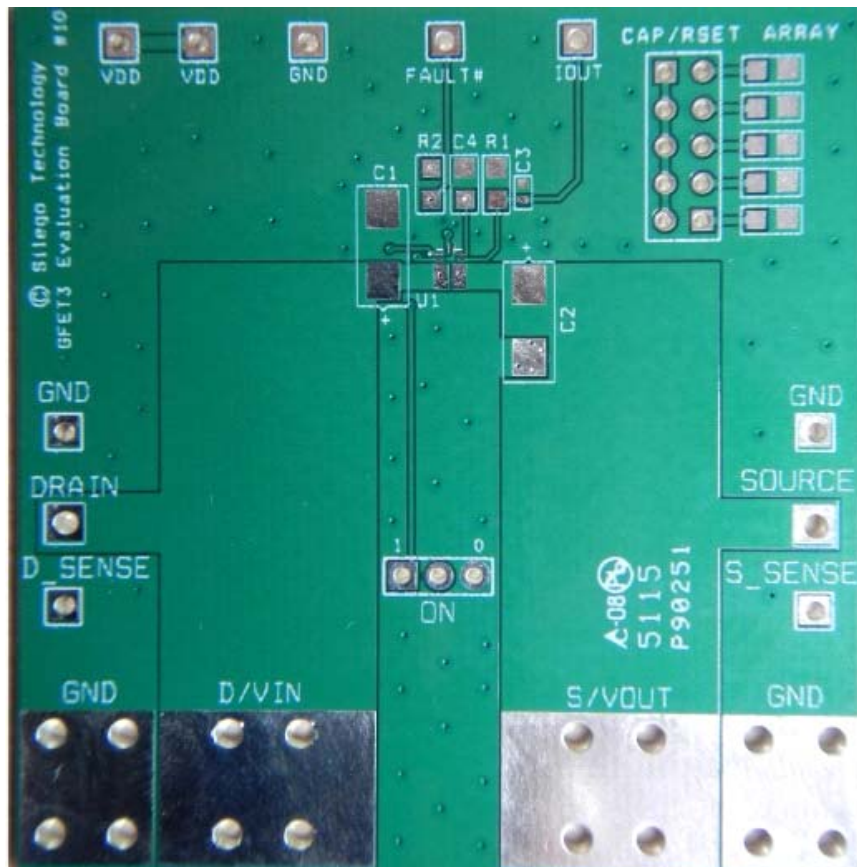

Figure 13. SLG5NT1757V Evaluation Board
2. Since the VIN and VOUT pins dissipate most of the heat generated during high-load current operation, it is highly recommended to make power traces as short, direct, and wide as possible. A good practice is to make power traces with an absolute minimum widths of 15 mils (0.381 mm) per Ampere. A representative layout, shown in Figure 13, illustrates proper techniques for heat to transfer as efficiently as possible out of the device;
A GFET3 Evaluation Board for SLG5NT1757V is designed according to the statements above and is illustrated on Figure 13. Please note that evaluation board has D_Sense and S_Sense pads. They cannot carry high currents and dedicated only for RDS_{ON} evaluation.